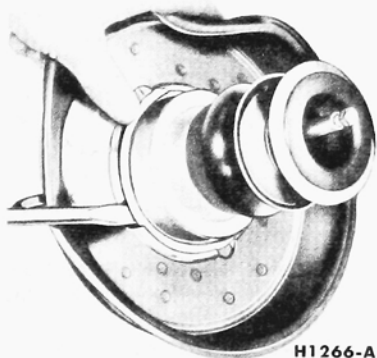

FIG. 28—Bellows Removal or Installation
9. Remove the large bellows retainer ring and the bellows assembly from the diaphragm and valve assembly (Fig. 28).
13. Position the bellows assembly over the push rod against the front side of the diaphragm. Secure the bellows to the diaphragm by installing the retainer ring (Fig. 28). **Make sure that the retainer ring is fully seated.**